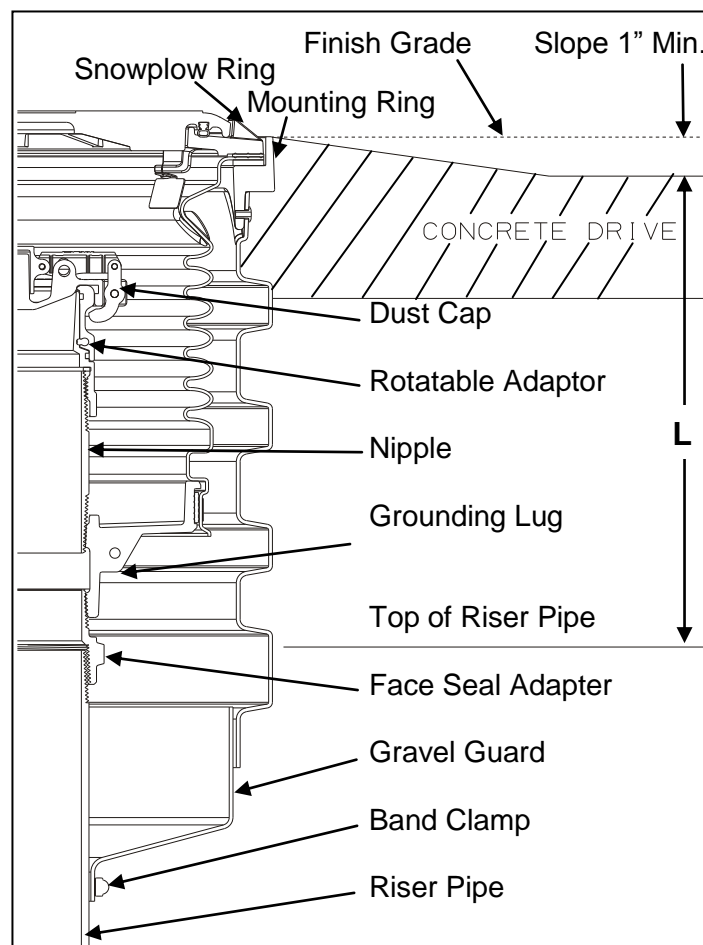

Figure 3
Step 7: (See Figure 3)
Step 11: (See Figure 3)
Install gravel guard at final height as shown in Figure 3 and tighten band clamp to 30 in-lbs. Where applicable, per California SB-989, all metal must be protected from direct contact with the elements. Coat stainless steel band clamp with the following approved coatings: OPW SL-1100, 3M Underseal 08883 or Polyguard Mastic CA-9.
Step 12: (See Figures 3 & 5)